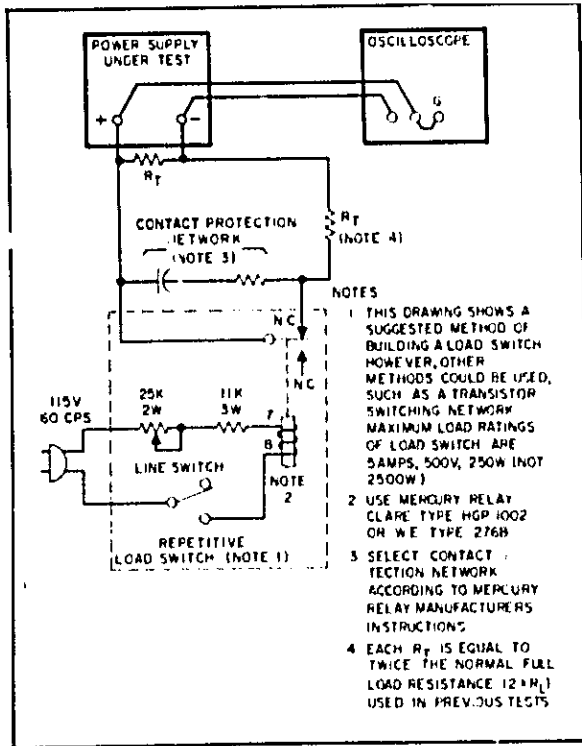

Figure 5-5. Load Transient Recovery Time, Test Setup
5-30 Measurement Techniques. Care must be taken in switching the load resistance on and off. A hand-operated switch in series with the load is not adequate since the resulting one-shot displays are difficult to observe on most oscilloscopes and the arc energy occurring during switching completely masks the display with a noise burst. Transistor load switching devices are expensive if reasonably rapid load current changes are to be achieved. Instead, a mercury-wetted relay should be used for loading and unloading the supply. Connect it in the load switching circuit shown in Figure 5-5. When this load switch is connected to a 60Hz ac input, the mercury-wetted relay will open and close 60 times per second. The 25K control adjusts the duty cycle of the load current switching to reduce jitter in the oscilloscope display. This relay may also be used with a 50Hz ac input.
- Connect the test setup shown in Figure 5-5. Both load resistors (R_T) are twice the normal value of a full load resistance.